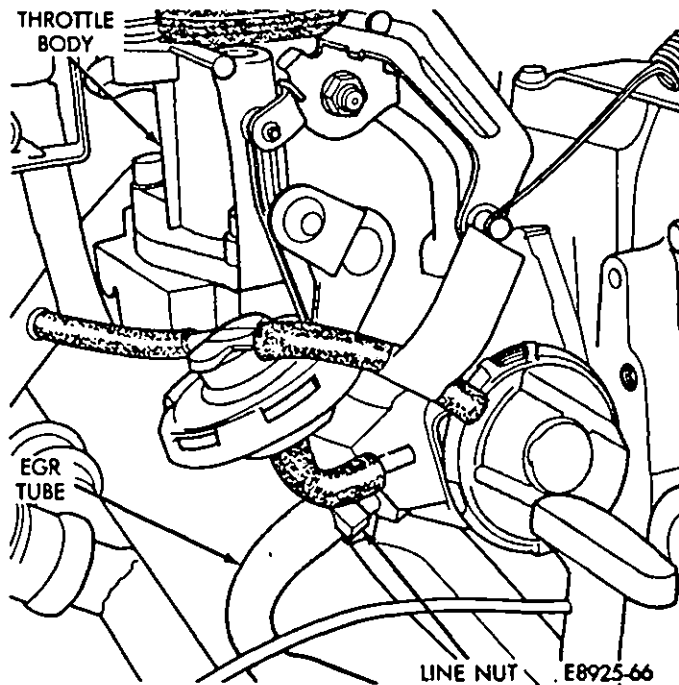

Fig. 11—EGR Tube to Throttle Body Connection
(1) Unscrew the EGR tube line nut from the throttle body adapter (Fig. 11).